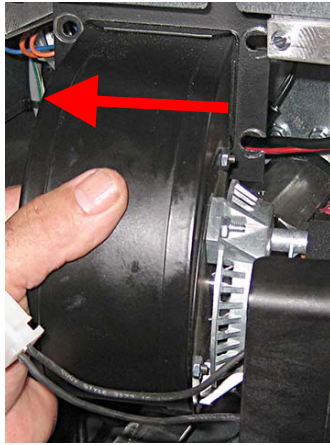

Figure 6
6. Slide the blower off the right nuts towards the left (see Figure 6).